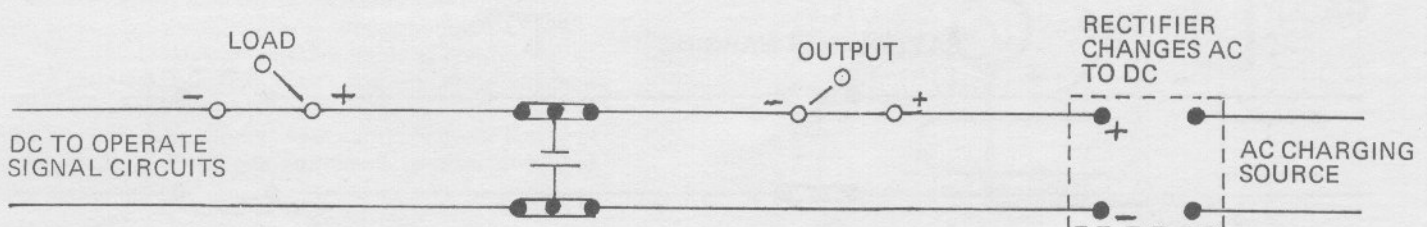

Figure 1
**Detailed Operation—Floating Charge:** Since it is the most widely used of the various types of battery charging, the float system will be described in detail. All battery charging systems are not connected exactly as shown in Figure 1. However, in all cases where a "floating system" is used, the rectifier must supply enough current to: